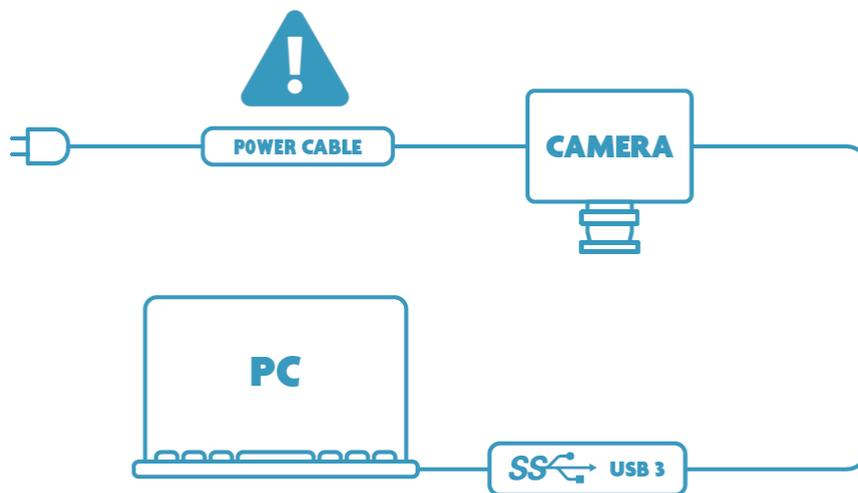

Figure 47 Connections between snapscan camera and PC
- a. Verify that all the connections are complete, as shown in Figure 47.